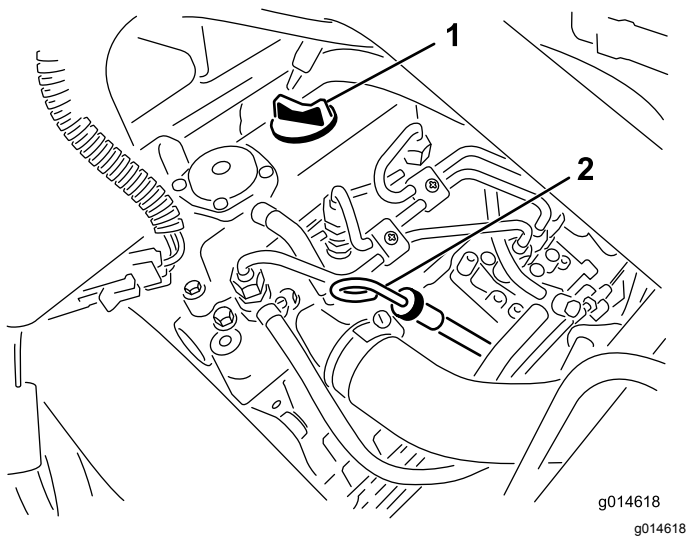

Figure 27
2. Remove the dipstick and wipe it with a clean rag (Figure 27).